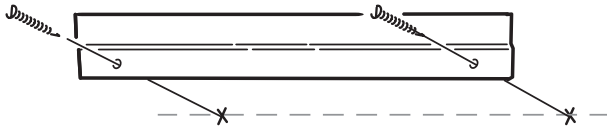

Fig 2. - Marking out the Mounting Bracket
3. Remove the cabinet from the wall and using a spirit level, mark a horizontal line 35mm below the pencil mark. Hold the mounting bracket in place with the holes corresponding with the marked line. Ensure the bracket is central, and mark the position of the holes, *see Fig. 2*.